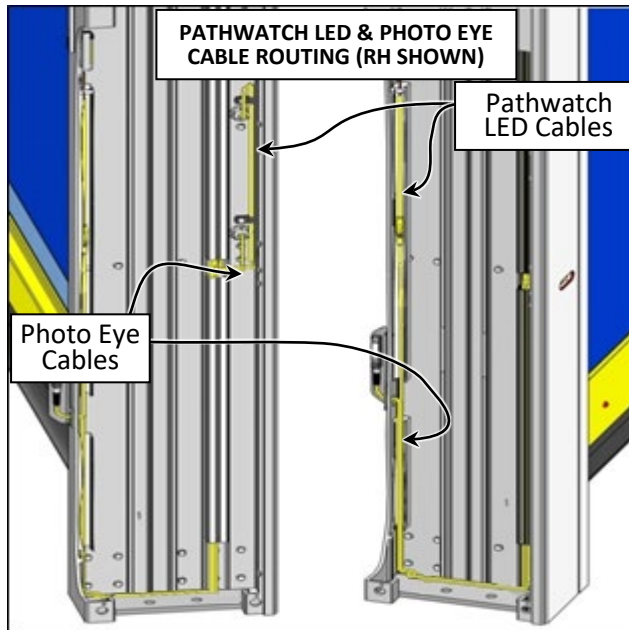
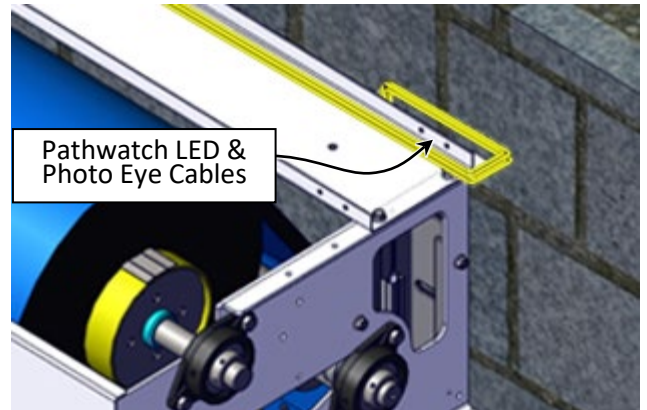

Figure 37
Figure 38
2. After the side columns and head assembly have been assembled and mounted to the wall, confirm the front Pathwatch LED Warning light cables/wires are routed as shown in Figure 19, Figure 37, and Figure 38:
- a. Through the wire chase on the inside front of the side column and down to the bottom. (See Figure 37)
- b. Flat across the side column bottom back to the rear of the side column. Make sure the cables counterweight or crush plate. (See Figure 37)
- d. Up through the gap between the head assembly rear spreader and the wall. (See Figure 38)
2. After the side columns and head assembly have been assembled and mounted to the wall, confirm the rear Pathwatch LED Warning light cables/wires are routed as shown in Figure 19, Figure 37, and Figure 38:
- a. Up the side column rear wire chase through the grommet and inside wire chase slot. (See Figure 19 and Figure 37)
- b. Through the gap between the head assembly rear spreader and the wall and to the junction box. (See Figure 38)
3. Secure cables/wires with plastic ties to the rear spreader of the head assembly. (See Figure 38)
2. Confirm the front cable/wires are routed as shown in Figure 19, Figure 37, and Figure 38:
- a. From the photo eye back into the side column, down the front side wire chase of the side column to the bottom. (See Figure 37)
- b. Flat across the bottom of the side column back to the rear side column. Make sure the cables are flat on the bottom and don't interfere w/ the counterweight or crush plate. (See Figure 37)
- d. Through the gap between the head assembly rear spreader and the wall to the rear junction box. (See Figure 38)
2. Confirm the rear cable/wires are routed as shown in Figure 19, Figure 37, and Figure 38:
- a. Up the side column rear wire chase through the grommet and inside wire chase slot. (See Figure 19, and Figure 37)
- b. Through the gap between the head assembly rear spreader and the wall to the rear junction box. (See Figure 38)
3. Secure cable with plastic ties to the rear spreader of the head assembly. (See Figure 38)